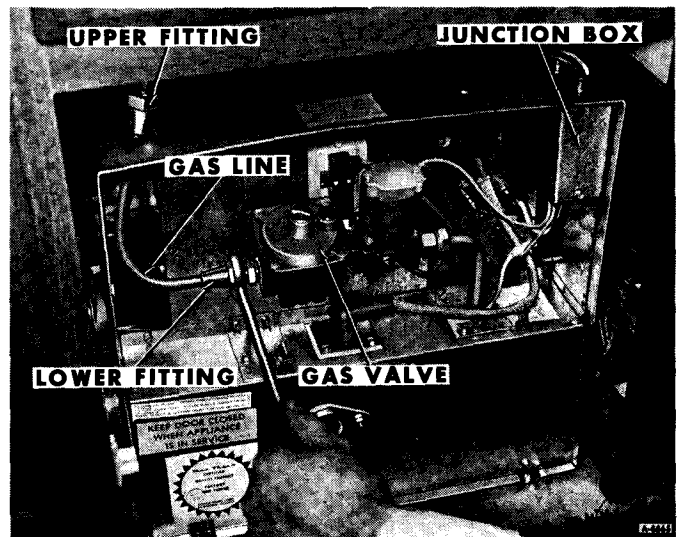
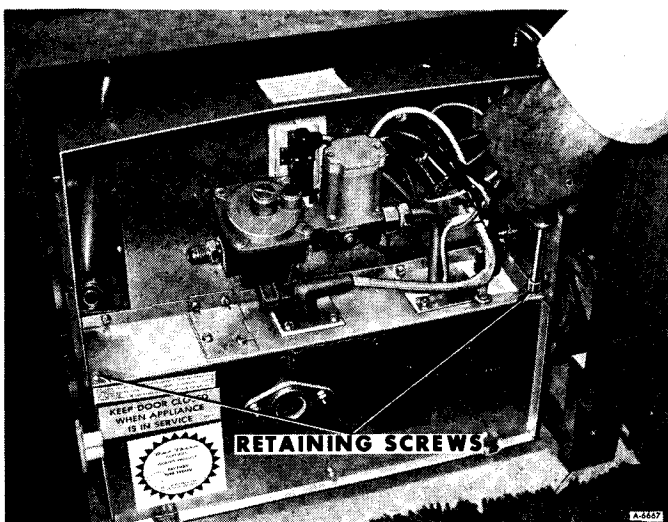

Figure 6—Disconnecting Furnace Gas Line
Figure 8—Removing Combustion Chamber Assembly Retaining Screws
4. Disconnect gas line lower fitting from furnace gas valve (figure 6). Loosen gas line upper fitting. Rotate gas line 90° to allow for removal of combustion chamber assembly (figure 8).
5. Remove cover from junction box (figure 6).
7. Remove two combustion chamber assembly mounting screws (figure 8).
2. Install two combustion chamber assembly retaining screws (figure 8).
5. Connect gas line to furnace gas valve (figure 6). Tighten upper and lower fittings on gas line.
2. Disconnect gas line from gas valve (figure 6).
3. Connect gas line to gas valve (figure 6).